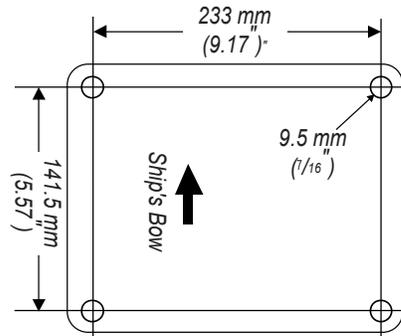

Figure 1
1. When a suitable mounting location is determined, verify that the mounting hole locations are aligned fore and aft, and use the included mounting template or reference Figure 1 to drill four 9.5 mm ($\frac{7}{16}$ ") mounting holes. (This step is not necessary if you are using a pre-drilled Garmin compatible or Raymarine® mount.)